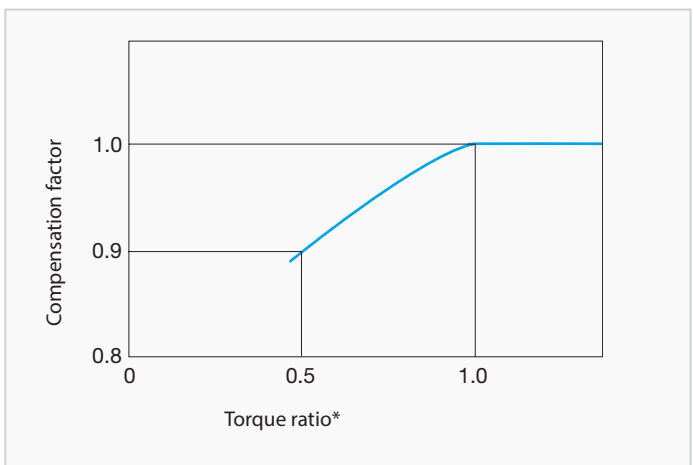

Fig. A-4 Compensation curve for efficiency
1. The efficiency changes if the load torque does not match the nominal torque. Check the compensation factor in the diagram Fig. A-4.
2. When the torque ratio is over 1.0, the compensation factor for efficiency is 1.0 (diagram Fig. A-4).